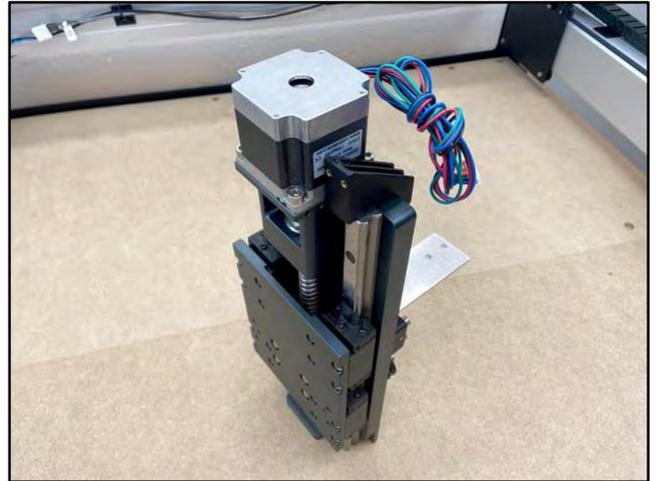
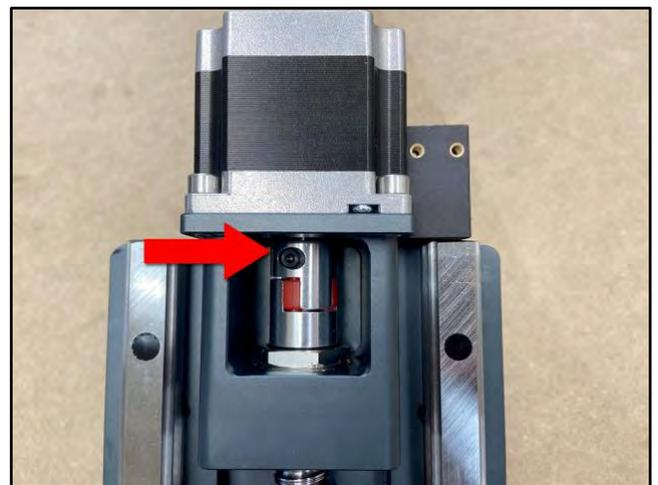

Figure 9
Figure 10
1. Install the Z-motor at the top of the HDZ. See **Fig. 9** and **Fig. 10**.